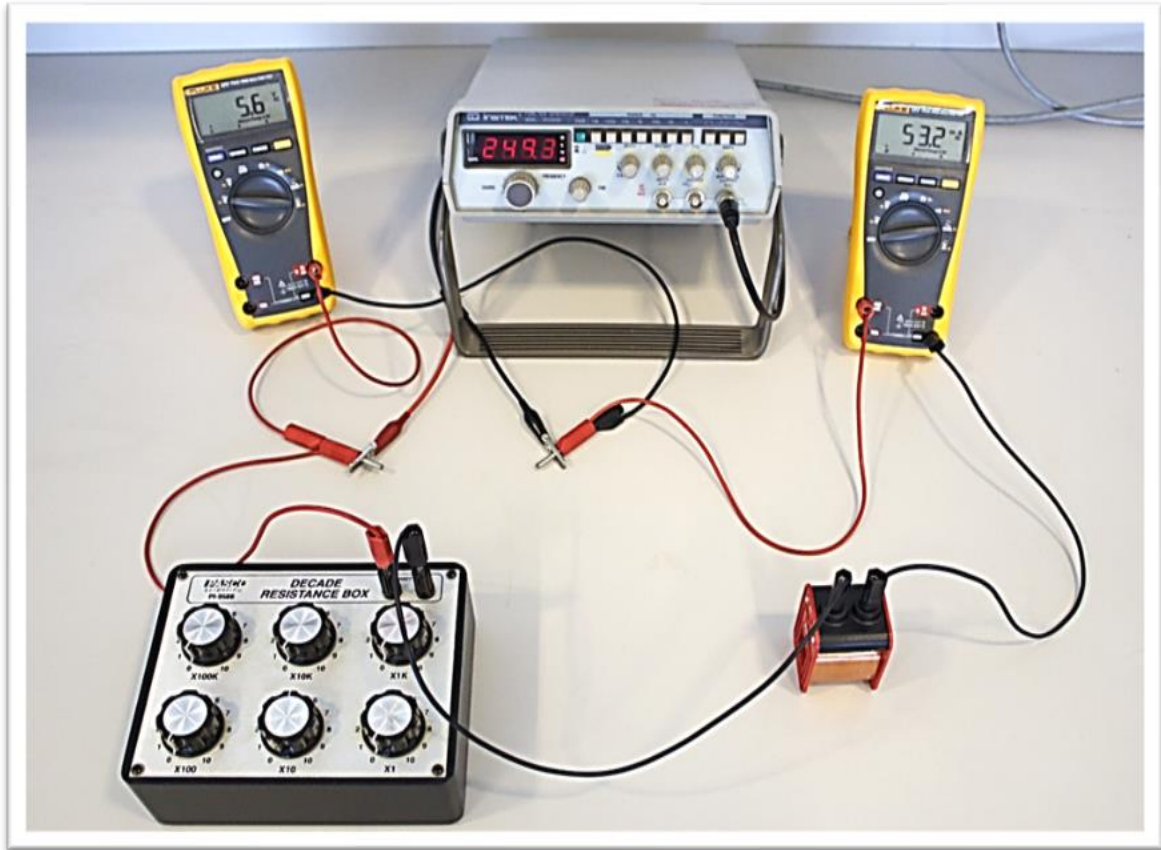

Fig. 4: R - L circuit setup
2. Connect the circuit given in **Fig.1** as shown in **Fig.4**.